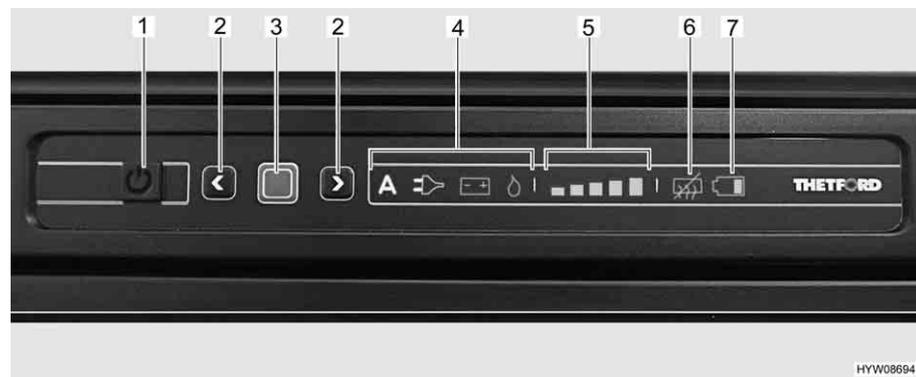

Fig. 168 Operating controls for the refrigerator
When it is switched on, the refrigerator automatically selects the thermostat setting selected last. This position can be adjusted manually by using the arrow keys (Fig. 168,2). The illuminated bars of the cooling level indicator (Fig. 168,5) show the selected thermostat position.
The refrigerating temperature for the three types of energy is set with the arrow keys (Fig. 168,2). It takes a few hours till the refrigerator reaches the set operating temperature. When changing over the operating mode the thermostat setting will be maintained. The refrigerating temperature is retained regardless of the type of power being used.
- Press and hold the On/Off button (Fig. 168,1) for 1 second. Button lights up green. The indicators stay on for 10 seconds and are then dimmed to save energy.
- Press confirmation button (Fig. 168,3). The current setting of the operating is displayed.
- Press and hold the confirmation button (Fig. 168,3) for about 2 seconds. The operating mode symbols (Fig. 168,4) flash.
- Use the arrow keys (Fig. 168,2) to select the desired operating mode.
- Press and hold the confirmation button (Fig. 168,3) for about 2 seconds. The operating mode symbols flash.
- Press confirmation button again. The display of cooling levels (Fig. 168,5) flashes.
- Use the arrow keys (Fig. 168,2) to set the desired cooling power.
- Press and hold the On/Off button (Fig. 168,1) for about 2 seconds. All lights go out.
- Press both arrow keys (Fig. 168,2) simultaneously for approximately 2 seconds. The "anti-condensation off" symbol (Fig. 168,6) lights up.
- Press both arrow keys (Fig. 168,2) simultaneously for approximately 2 seconds. The "anti-condensation off" symbol (Fig. 168,6) goes out.